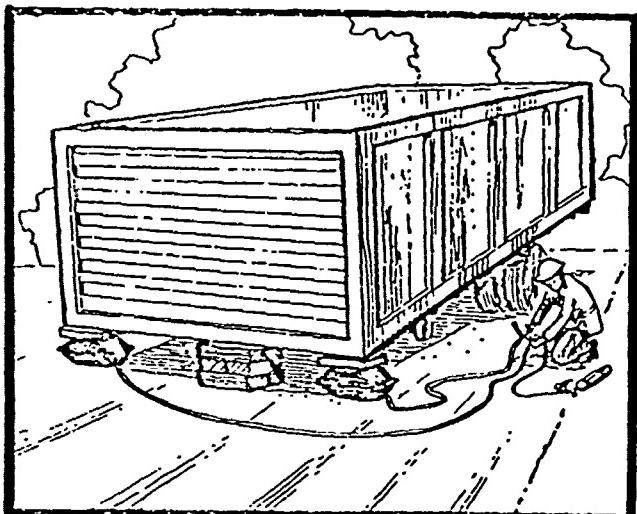

FIG. 20
- C. Allows you to lift the same load at two separate points to maximize surface contact (Fig. 20).